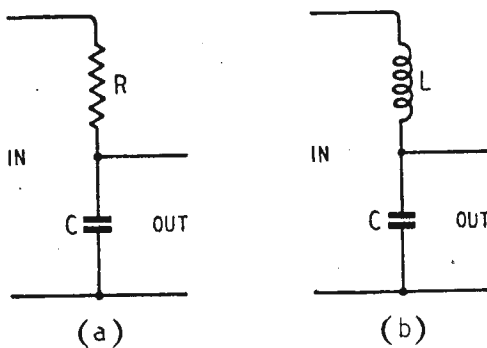

Fig. 1. Comparison between RC smoother discussed last month (a), and the LC smoother (b).
**L**AST month we began the study of smoothers by considering the very simple combination shown in Fig. 1(a). Alternatively (as they say in law) if we didn't (or did, and have forgotten it all), it should be quite easy to pick it up, because this month's circuit (Fig. 1(b)) is to be tackled along exactly the same lines, making only the changes necessitated by the fact that L takes the place of R.
We found that fortunately these assumed conditions do actually apply, unless the smoother is a very poor one with an  $a$  of, say, 3 or less. Using several Fig. 1 sections in cascade complicates the shunting assumption, admittedly, because each section shunts the one in front of it; but after we had worked out the best number of sections to give any
Coming now to Fig. 1(b), we are as grateful as ever to avail ourselves of the shunting assumption. There is not quite so much point in using the vector assumption, however, because  $X_L$  and  $X_c$  directly subtract instead of having to be combined under a square root sign. And we shall see that because of this the error due to using it is considerably greater.
Treating Fig. 1(b) (as we did (a), by virtue of the shunting assumption) as a potential divider, the attenuation is equal to the whole impedance divided by the impedance of C alone:
Making the vector assumption just knocks off the 1, which, at the higher frequencies at least, is generally small compared with  $\omega^2 LC$ . This  $\omega^2 LC$ , by the way, is the ratio of  $X_L$  to  $X_c$ , taking the place of R to  $X_c$  in Fig. 1(a). We found it convenient to denote  $R/X_c$  by  $p$ , and with the seam